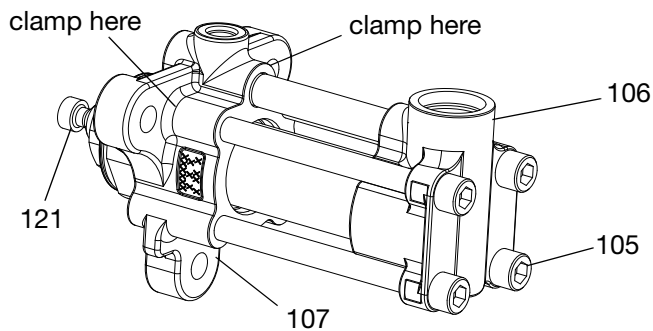

FIG. 11
2. Remove inlet and outlet hoses, drain inlet housing (106), and outlet housing (107). If quick lube system is installed, detach hoses from outlet housing (107).
3. Using a bench vice, horizontally clamp the pump on outlet housing (107). Use a 1/2 in. hex bit socket to loosen all four tie bolts (105) from inlet housing (106).
4. For 20cc - 40cc pumps only: Use wrench to remove rod adapter (121). See FIG. 11.